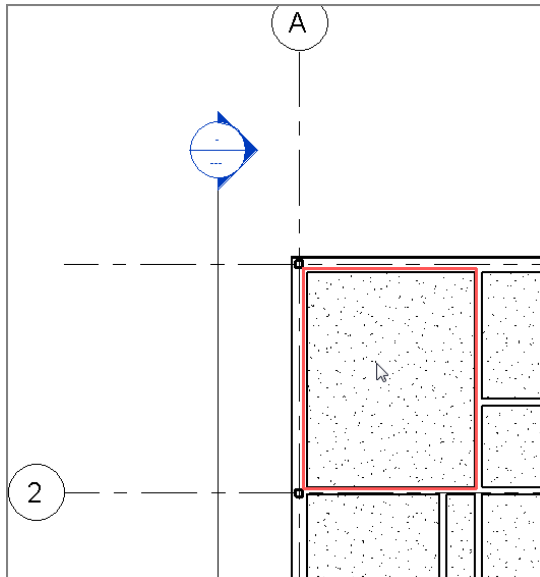

FIGURE 9.3: The Ceiling command finds bounding items such as walls.
4. Hover your mouse over the room shown in Figure 9.3. Notice that the perimeter is outlined in red. This indicates that the ceiling has found at least four walls you can use as a layout.